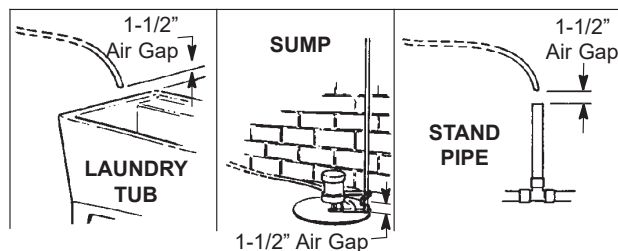

FIG. 4
- If installing a single bypass valve, push the bypass valve, with lubricated o-ring seals in place, into the valve inlet and outlet ports (See Figures 4 & 5).
- If installing a 3-valve bypass system, slide plastic installation adaptors, with lubricated o-ring seals in place, into the valve inlet and outlet ports (See Figure 4 & 5).
The house cold water pipe (metal only) is often used as a ground for the house electrical system. The 3-valve bypass type of installation, shown in Figure 4, will maintain ground continuity. If you use the plastic bypass, continuity is broken. To restore the ground, do the following:
- Take a length of 1/2" inside diameter hose and attach to the valve drain fitting, securing it with a hose clamp (See Figure 4 on page 6).
- Locate the other end of the hose at a suitable drain point (floor drain, sump, laundry tub, etc.). Check and comply with local codes. Refer to Figure 4 if codes require a rigid pipe drain run.